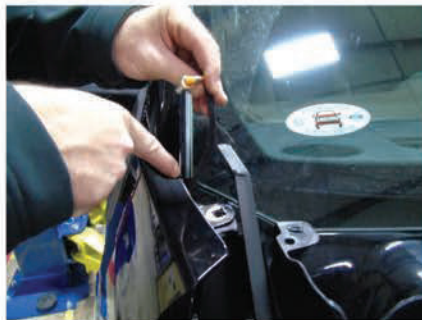

Fig 10.
- j. Route the antenna wire to the outer side of the bracket as shown in **Fig 10**.